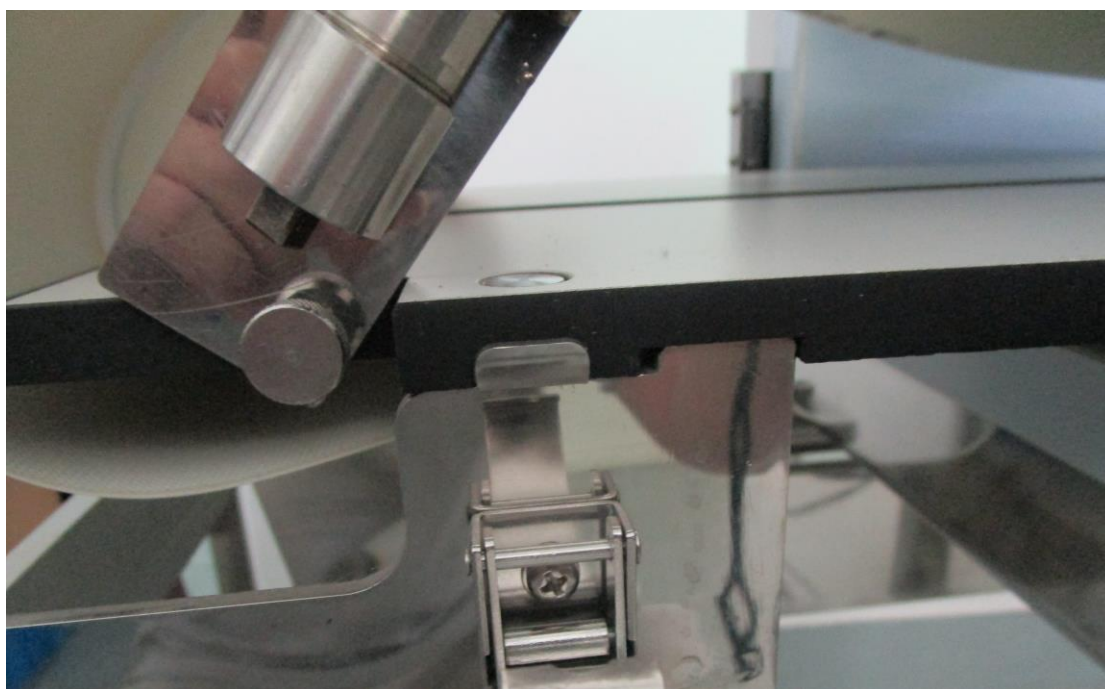

Figure 4-6 Align the positioning groove
6) Put on a new conveyor belt, install the table, and pay attention to aligning the 4 positioning slots on both sides of the table. (Figure 4-6)